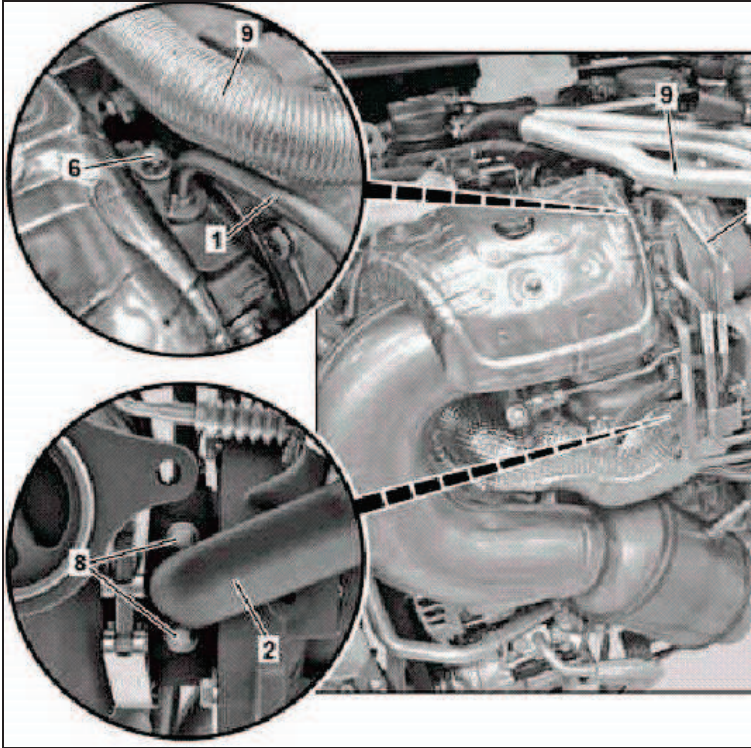

Figure 6
- Replace O-ring on turbo's oil feed line (1, Figure 6) with new O-ring found on new oil feed line (part no.: A 133 090 03 77) included in turbocharger parts kit (A 133 090 03 80 05). Be careful not to damage new O-ring when removing from new oil feed line, do not use sharp instrument to remove new O-ring. Torque bolt (6) to 9 Nm.
- Install new metal seal on the turbocharger oil drain line (2, Figure 6) from turbo charger installation kit (A 133 090 03 80 05). Ensure that the metal seal is seated correctly and that the bolts (8) are tightened to 9 Nm.